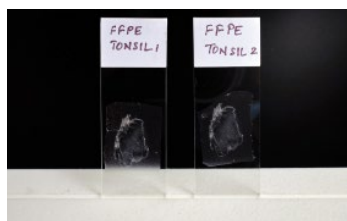

Figure 2.5. FFPE tissue drying overnight on angled slide holder.
9. With the tissue facing up, place the slide on a clean surface or on the angled slide holder and let it dry overnight at RT. (See Figure 2.5.)